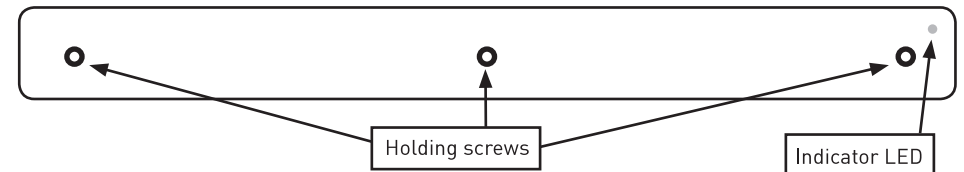

Fig 2
- Remove the 3 holding screws from the LED plate (see Fig 2)